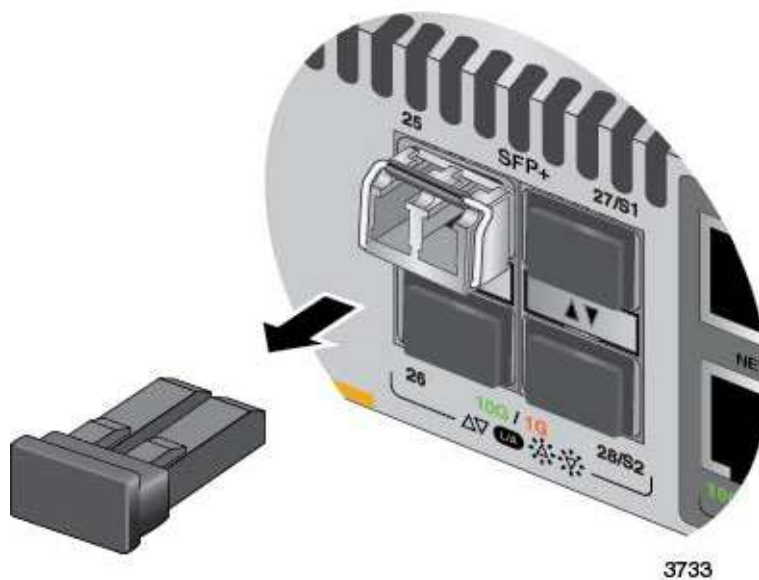

Figure 74. Removing the Dust Cover from an SFP or SFP+ Transceiver
5. Remove the dust cover from the transceiver, as shown in Figure 74.